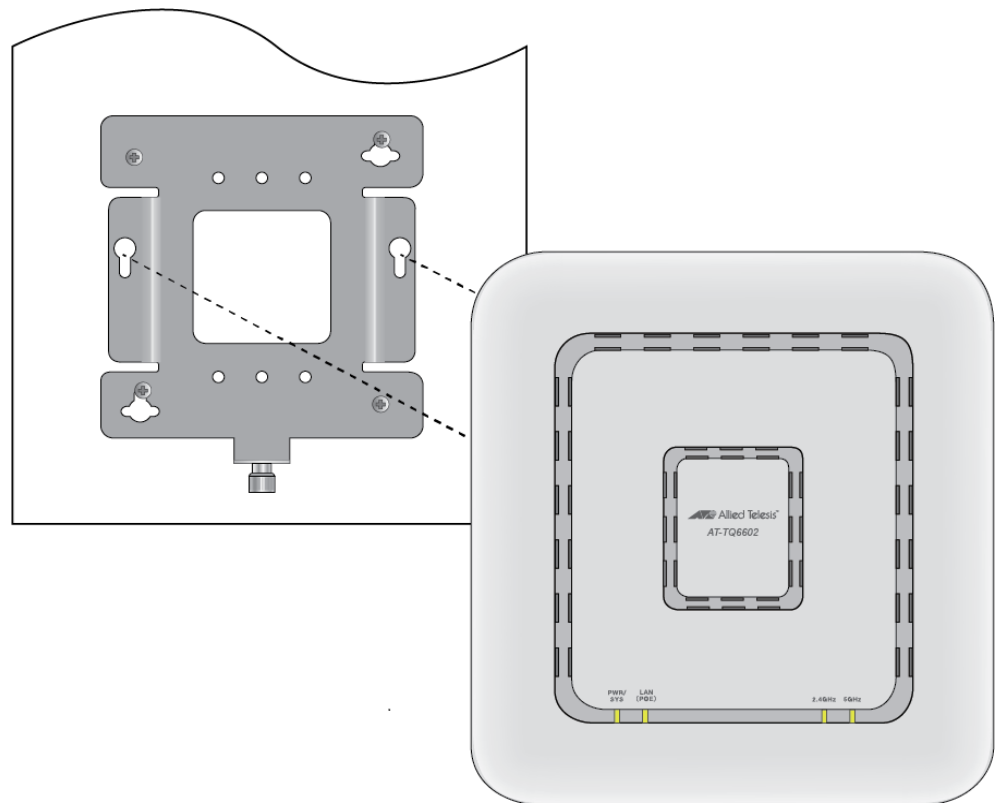

Figure 28. Installing the Wireless Access Point on the Wall Mounting Bracket
1. Align the bottom of the access point over the bracket so that the two screws on the bottom of the device fit into the bracket keyholes. Refer to Figure 28. (The two screws are installed in “Installing the Mounting Bracket Screws” on page 55.)